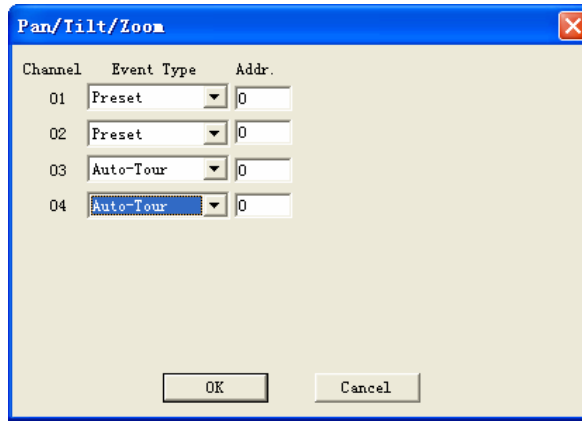

Figure 7-47
- ✧ PTZ activation: Click set button, you can see an interface is shown as in Figure 7-47. System can go to corresponding preset when alarm occurs.